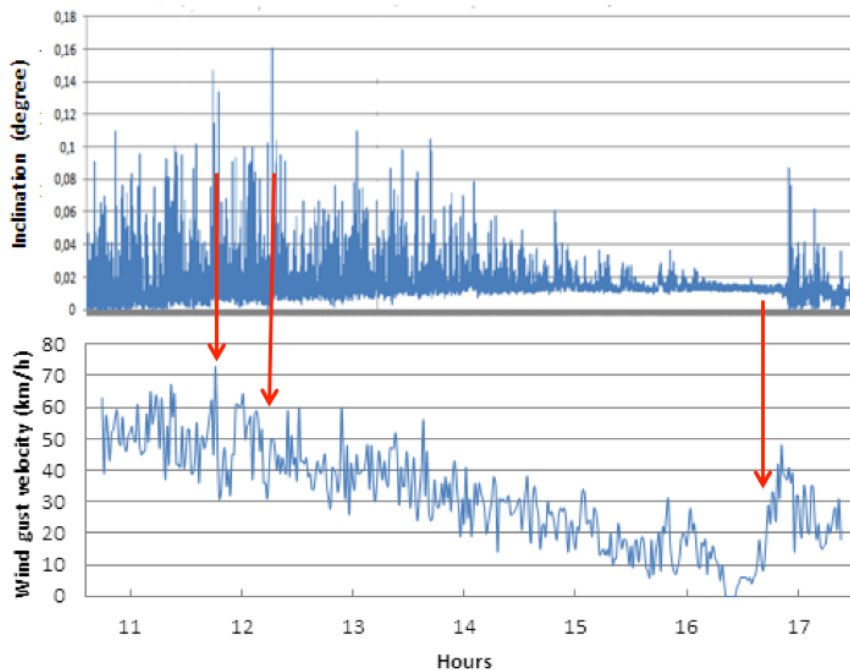

Figure 2: Time series plot of inclination and wind velocity.
2. As a result, there is no direct relationship between the wind load (wind velocity) and the immediate response of the tree, i.e. no correlation between the load and the inclination of the trunk (see Figure 2).